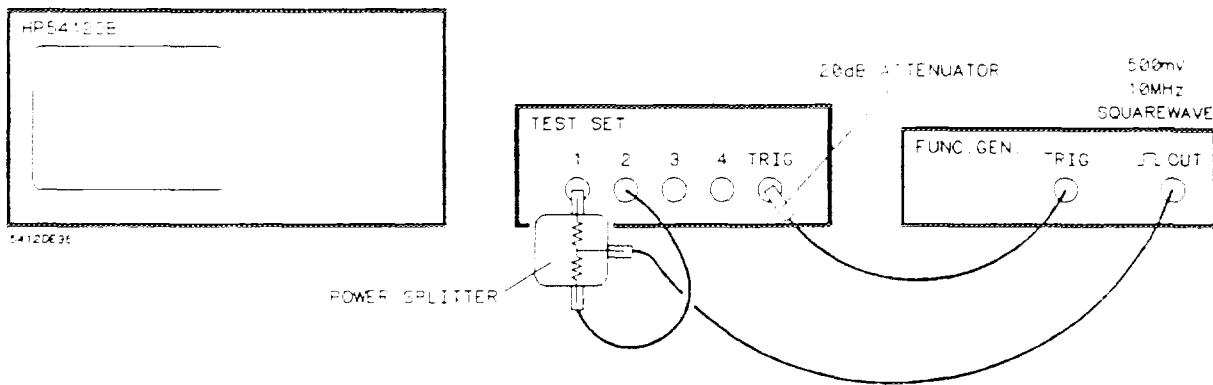

Figure 12-2. Equipment Configuration
- Connect the output of the function generator to channel 1 and 2 with the power splitter. See figure 12-2 on the next page.